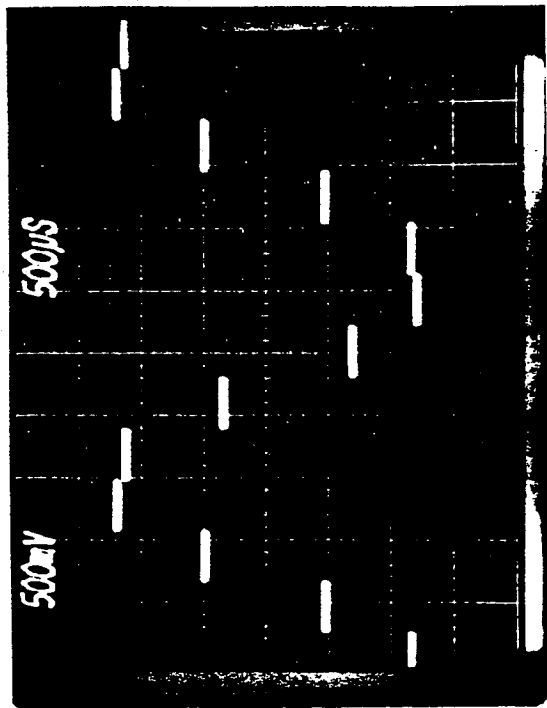

Figure 5-10
4. Check the signal on pin 7 of U9; it should be approximately as shown in Figure 5-10.